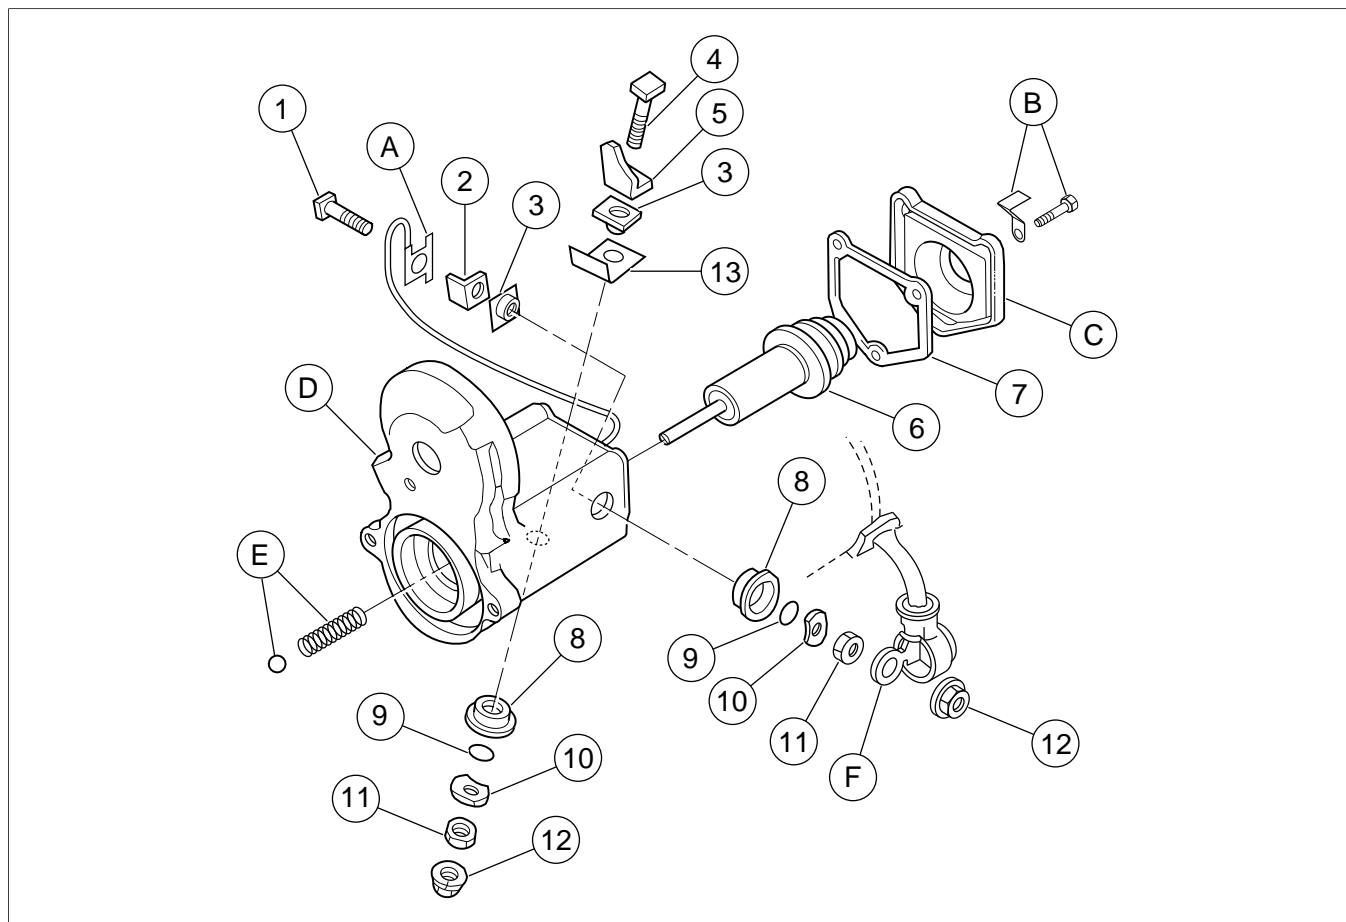

Figure 3. Service Parts: Starter Solenoid Rebuild Kit
See Figure 3 and Table 2.
1. See Figure 3. From inside of solenoid housing, insert center ferrule of square bushing (3) from kit through field terminal bolt hole.
2. Position contact plate (2) from kit between bushing and hold-in winding terminal with holes aligned.
1. See Figure 3. Locate 27 mm long copper bolt (4), and contact plate (5) from kit.
4. From inside of solenoid housing, insert center ferrule of a square bushing (3) from kit through power terminal bolt hole.
5. Insert threads of bolt and contact plate assembly through bushing (and paper insulator, item 13, if applicable), with contact leg positioned with curved edge toward plunger opening. Hold in this position.
6. From outside of housing, place center ferrule of round bushing (8), O-ring (9), and wave washer (10) (all from kit) over bolt threads.
7. Thread thin hex nut (11) from kit onto bolt. Snug into place, but do not tighten at this time.